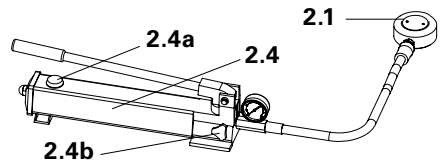

Fig. 9
6. Close vent and filler cap on the oil tank of the hand pump. (Fig. 9)